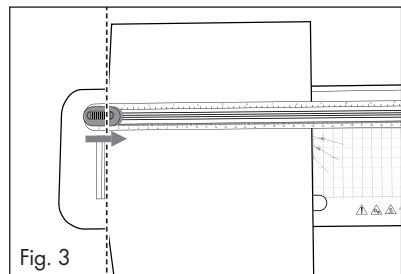

Fig. 3
- 3) Use the markings on the cutting ruler **3** to precisely align the paper/pouch if you want to shorten or cut at an angle, for example (see Fig. 3 and 4).